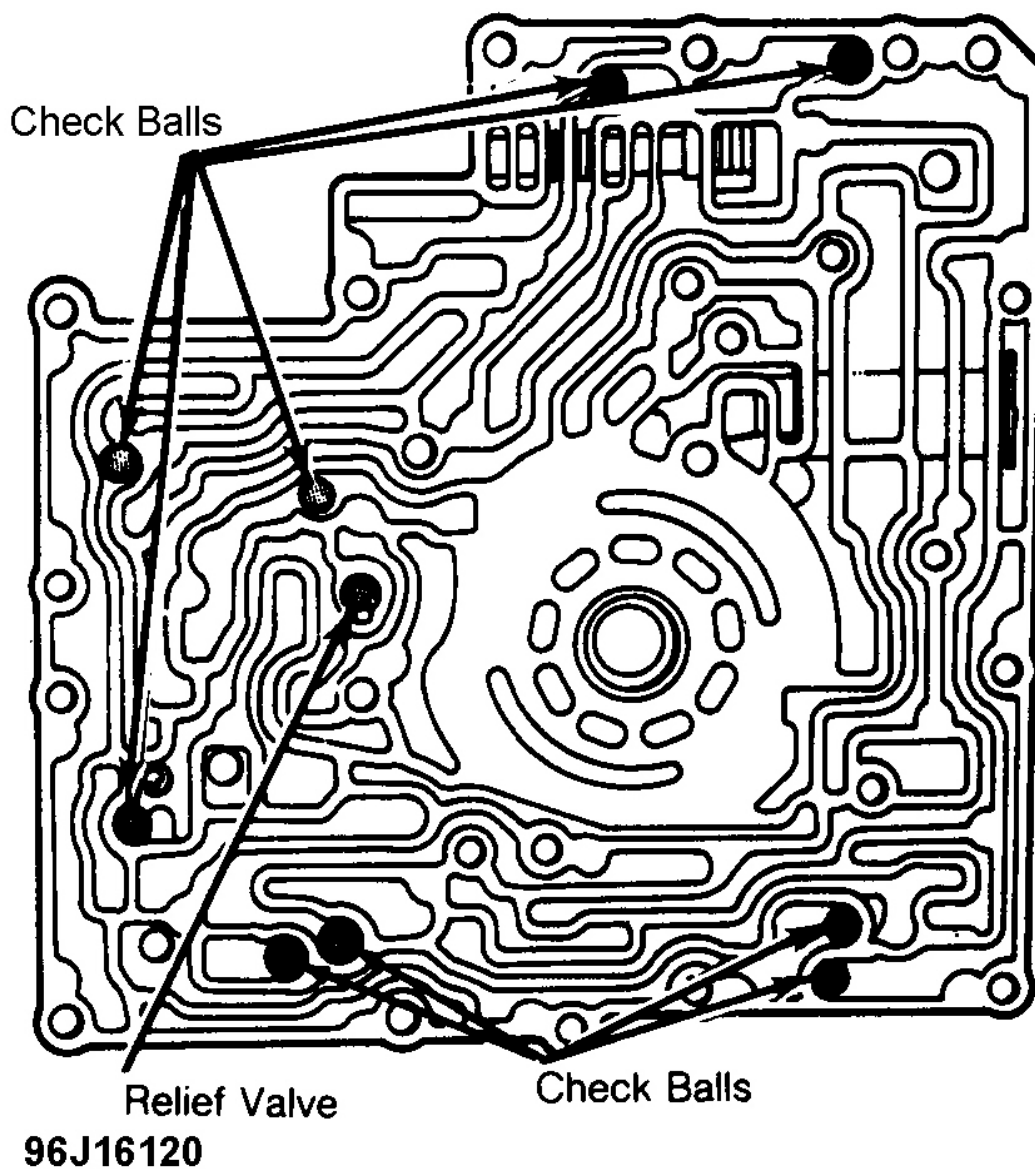

Fig. 14: Oil Pump Check Balls & Relief Valve Locations
NOTE: When separating oil pump from valve body, **DO NOT** loose 9 check balls. See **Fig. 14** .
1. Remove 2 Torx bolts holding separator plate to oil pump housing. Remove 9 check balls and a relief valve. See **Fig. 14**.